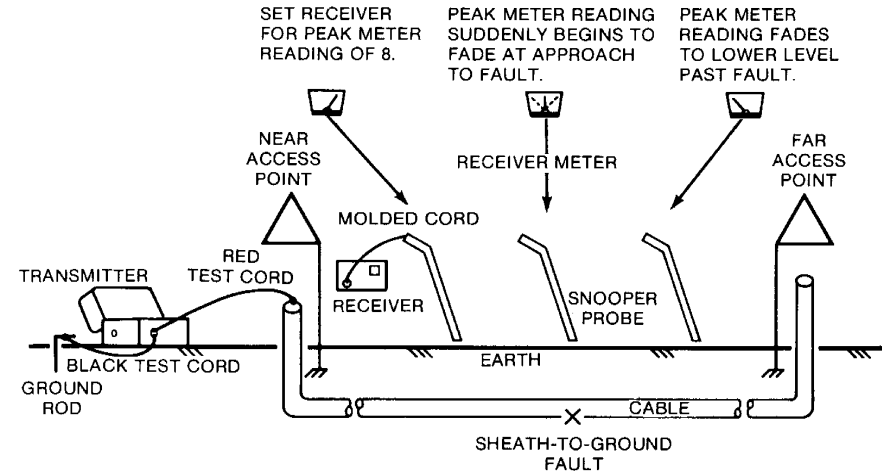

Figure 5-2.
3. Connect the black test cord clip to the ground rod (see Figure 5-2).
4. Plug the jack end of the red/black test cord into the TRACING TONE jack receptacle on the transmitter (see Figure 5-2).